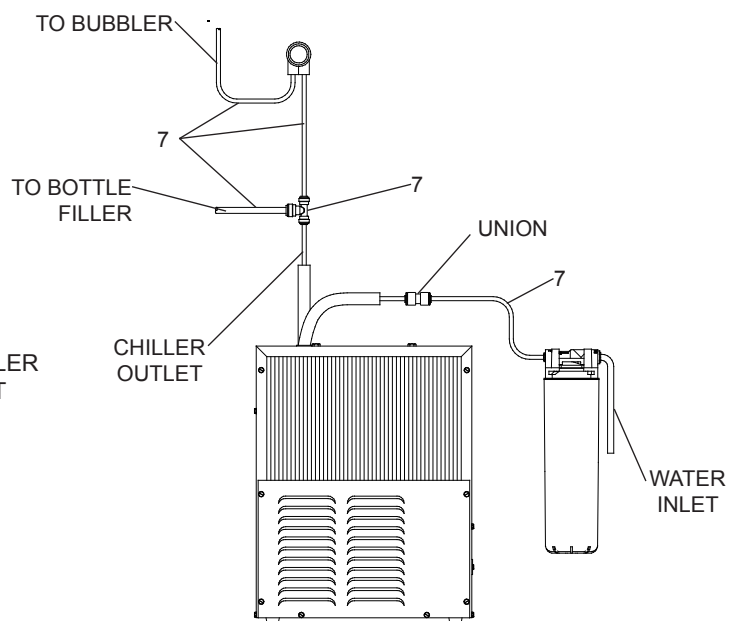

**Figure 4 – LZWS-ERFP8-RF Filter Mounting
4. **(For LZWS-ERFP8-RF)** If an existing filter is not present, install filter bracket on chiller (Fig 4), then install the filter head to the bracket, plumb from the filter outlet to the chiller inlet with  $\frac{1}{4}$ " poly tubing and  $\frac{1}{4} \times \frac{1}{4}$  union, install filter.